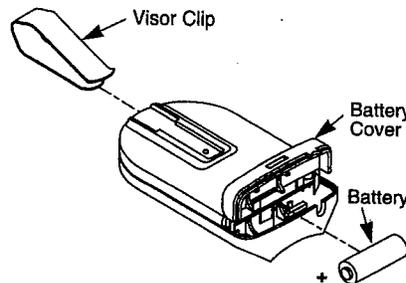

Fig. 3
- Step 5-3** Attach Visor Clip to Transmitter  (Fig. 3).